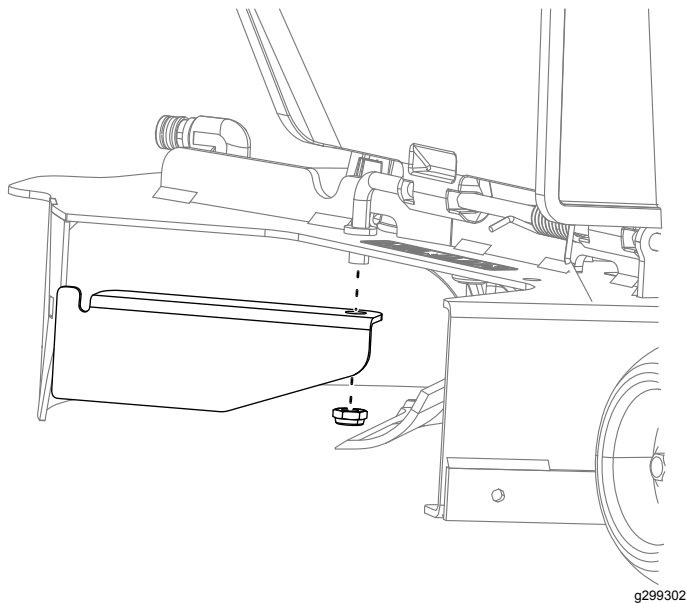

Figure 19
2. Install the new small baffle to the mower deck at the same location in the mower deck as the previously removed baffle (Figure 19).